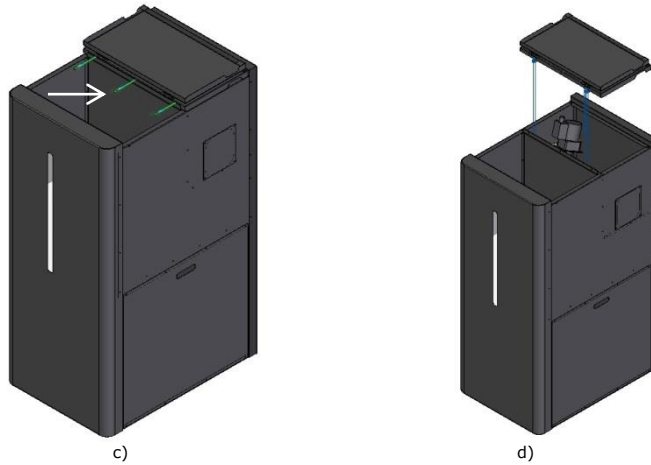

Figure 19 – Removing the upper lids
- 1 – First, remove the upper lids by loosening and removing the two retaining screws on the rear (Figure 19-a). Then, open the front lid and remove the 3 screws (Figure 19-c) that hold the lids in place.